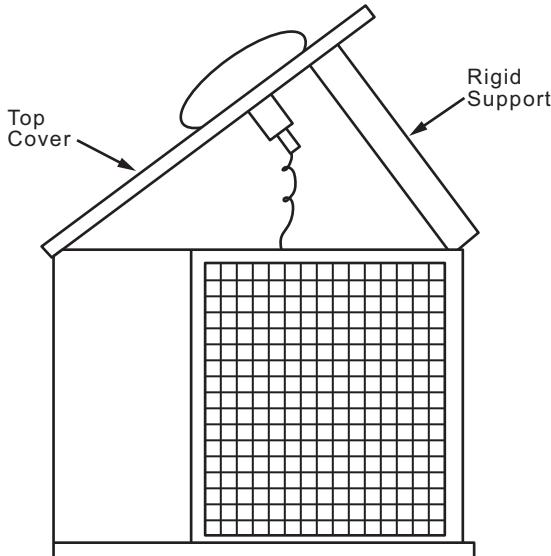

Fig. 29 — Pivot and Support Top Cover
2. Remove screws holding rear corner post and top cover in place. Pivot top cover up 305 to 457 mm (12 to 18 inches) and support with a rigid support. See Fig. 29.